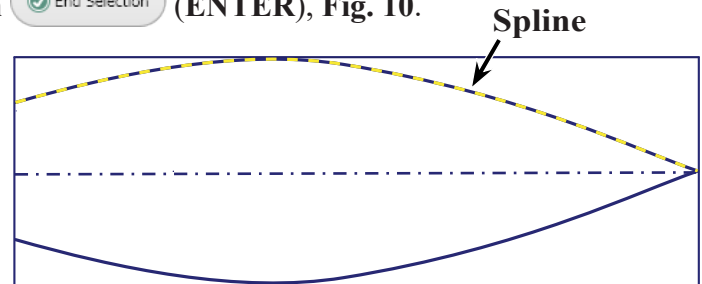

Fig. 10
Step 2. Click **spline** and click **End Selection** (ENTER), Fig. 10.